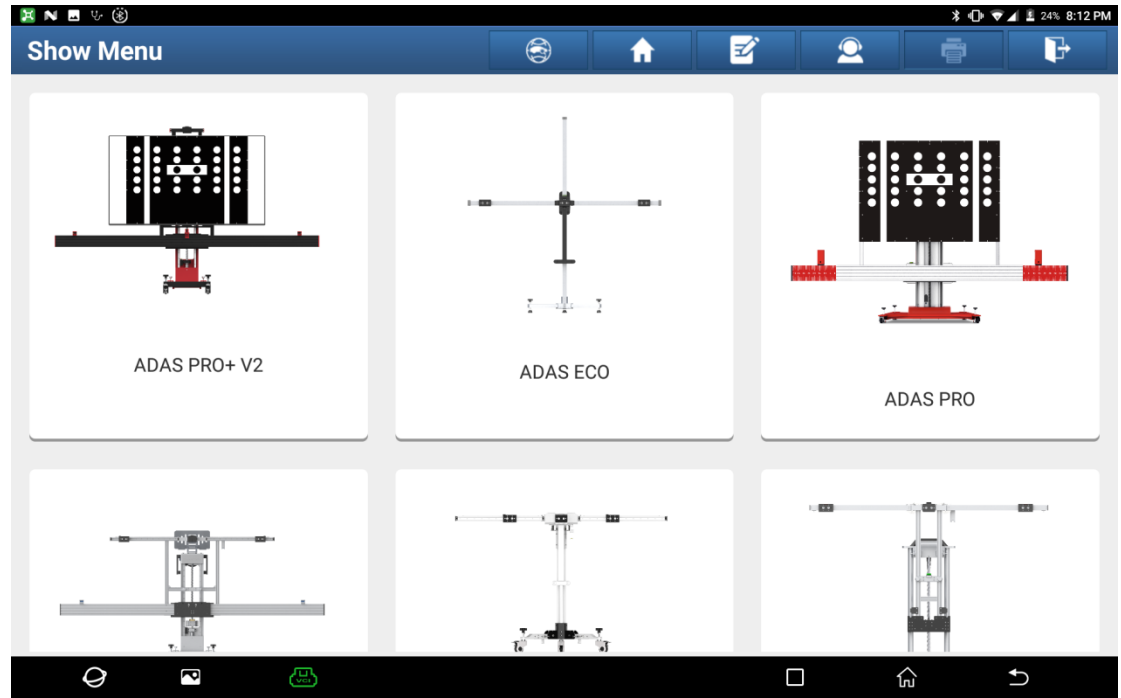

Figure 6
6. Click [Automatic Aiming] to enter the interface. See Figure 6.